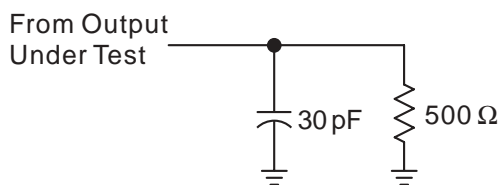

Figure 1. Load Circuit for Outputs
- 1) Use copper flooded ground on the top signal layer under the clock buffer. The area under U1 in figure 1 on the right is an example.